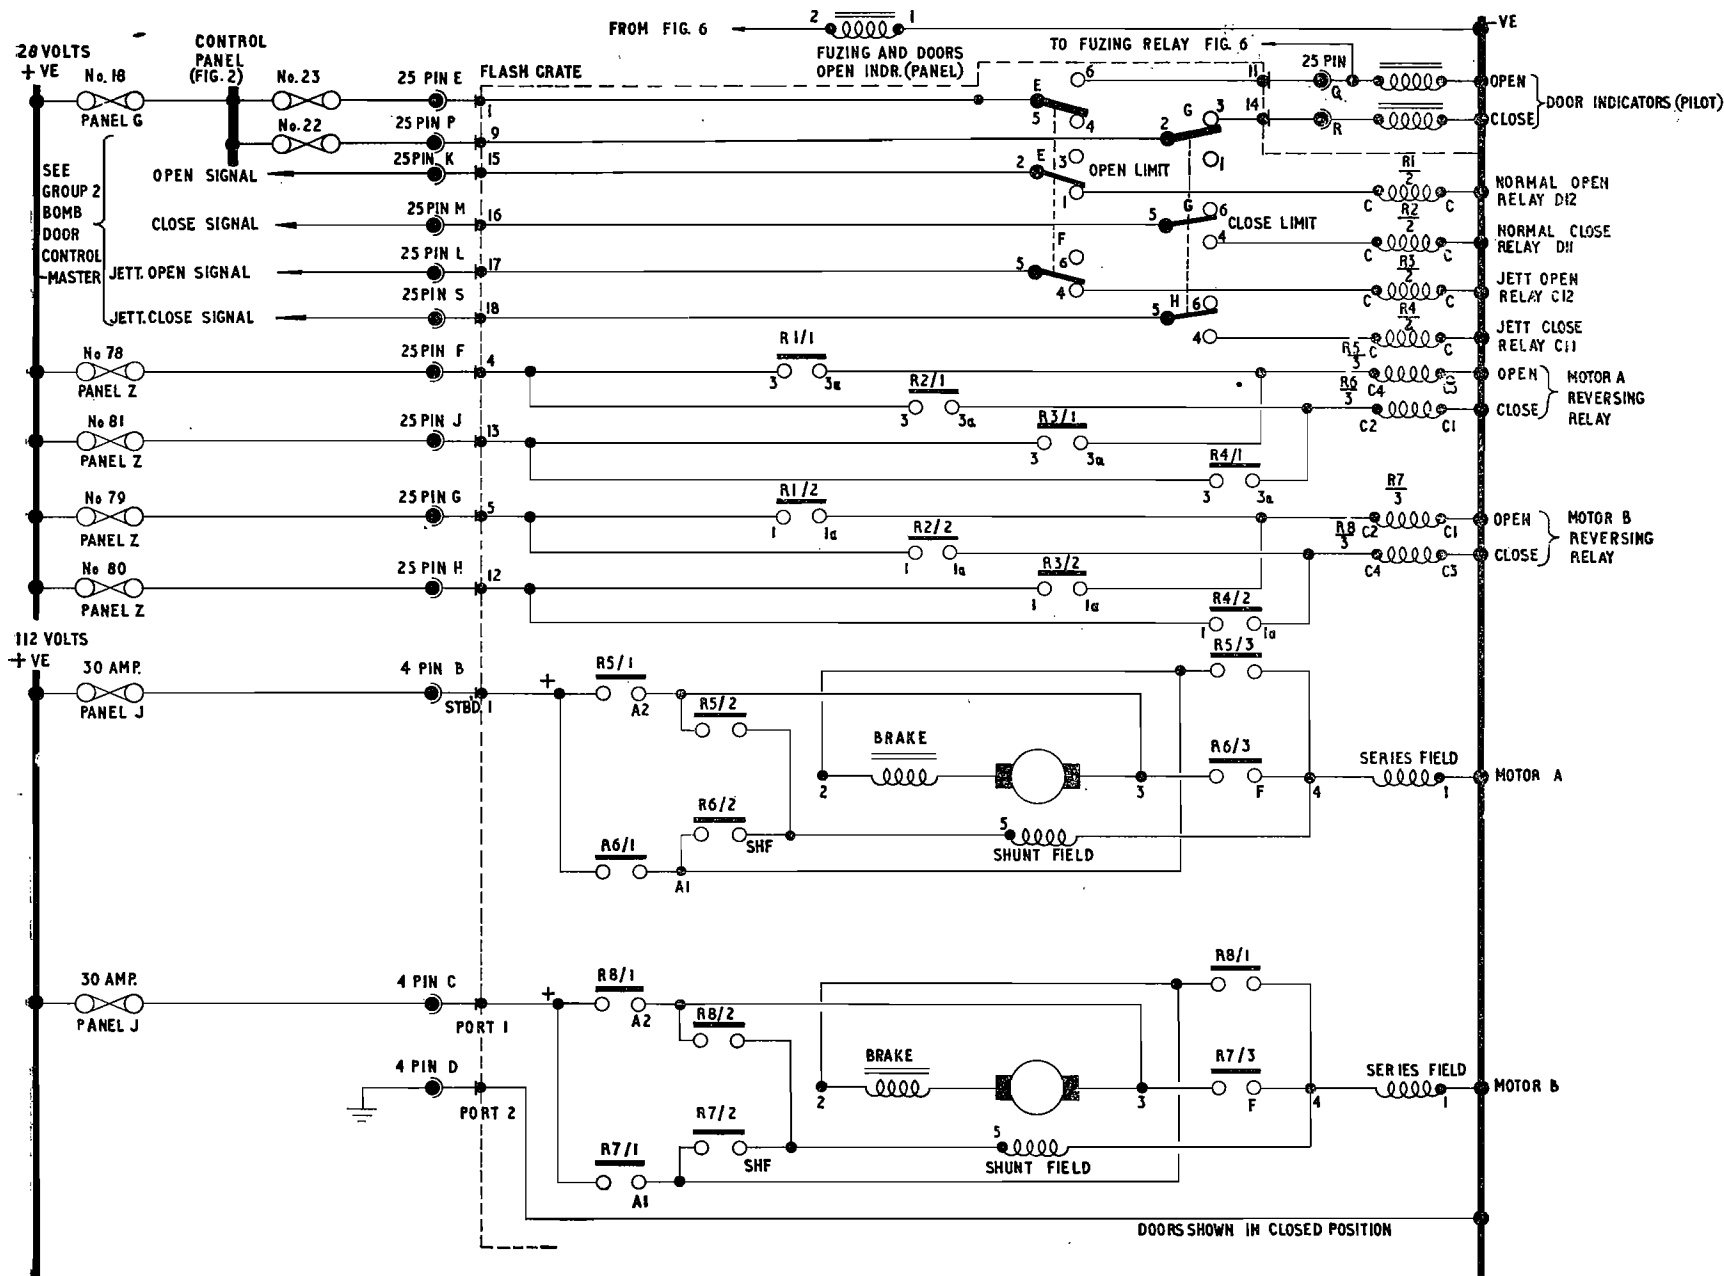

Fig. 1. Flash crate doors
FLASH CRATE DOORS (*fig. 1*)
Normal open (*fig. 1 and Group 2, fig. 1*)
14. When the BOMB DOOR control switch is selected OPEN (*Group 2, fig. 1*), it connects a supply from panel D via the bomb door trip switch and the jettison switch, both in their NORMAL position, through the change-of-role plug and socket at P.R. (Pin E) through the flash crate door open limit switch E (*made across 2-1*) to the normal open relay R1 in the flash crate (*fig. 1*).
Normal close (*fig. 1 and Group 2, fig. 1*)
Jettison open (*fig. 1 and Group 2, fig. 1*)
22. When the BOMB DOOR JETTISON switch (*Group 2, fig. 1*) is placed to JETTISON, a supply from panel E is connected to the positive side of all the contacts of the auto-close relay R1 (*Group 2, fig. 1*). The same supply is permanently connected to the positive side of contacts A and B of the time switch (terminal 2).
Jettison close (*fig. 1 and Group 2, fig. 1*)
27. The flashes will be jettisoned automatically as the doors reach the open position. Whilst the doors have been opening, the time switch has been operating, contact B closing 20 seconds after it started. This allows sufficient time for the doors to open and the flashes to be jettisoned. When contact B closes, it connects the supply from the jettison switch to the coil of the auto-close relay R1 (*Group 2, fig. 1*). Contact R1/2 and 4 open, and R1/1 closes to maintain a hold-in supply for coil R1.
Indicators (fig. 1)